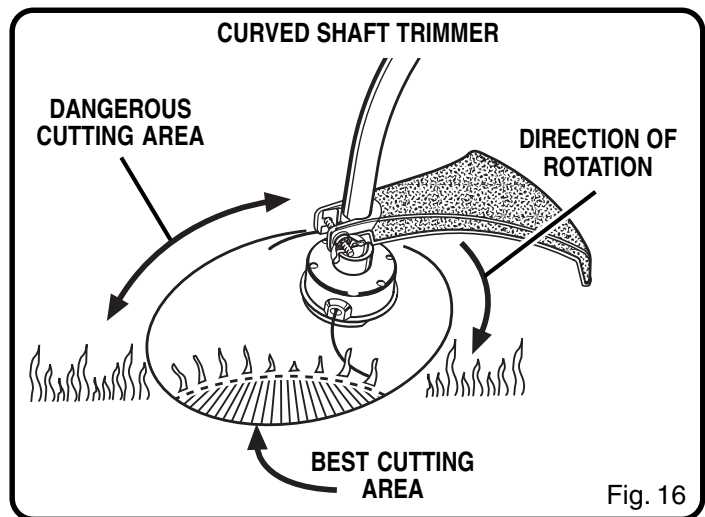

Fig. 16
See Figures 16 and 17.
- The curved shaft trimmer cuts when passing the unit from right to left. The straight shaft trimmer cuts when passing the unit from left to right. This will avoid throwing debris at the operator. Avoid cutting in the dangerous area shown in Figures 16 and 17.